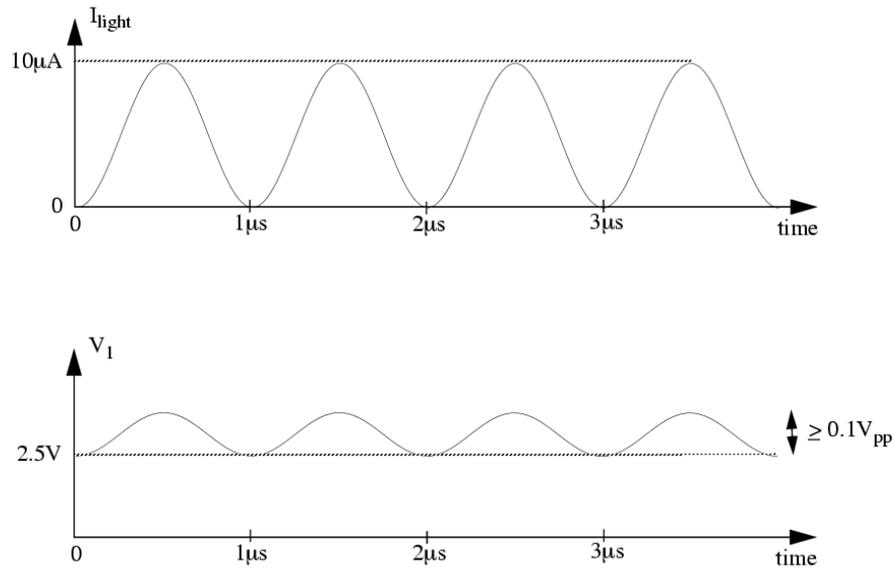

Figure 3: Current due to light shining on the reverse biased diode as a function of time. Also shown is the desired minimum peak-to-peak voltage at node n_1 .
The closed-loop small-signal gain $\frac{V_1}{I_{light}}$ of this first transimpedance amplifier needs to be as constant as possible over the range of I_{light} values shown in Figure 3. You will need to derive an expression for this closed-loop gain $\frac{V_1}{I_{light}}$, where V_1 is the voltage at node n_1 . Notice that since I_{light} is small, V_{diode} (the voltage at node n_{diode}) and V_1 will stay close to the midpoint of inverter I1, and I1 will be held in the high-gain region. Thus the transistors in inverter I1 will stay in the saturation region, and the small signal model can be used over the full range of input current. For the I_{light} shown in Figure 3, V_1 should have a peak-to-peak amplitude of at least $0.1 V_{pp}$ (peak-to-peak voltage), as indicated in Figure 3. For noise immunity, V_1 should be near the middle of the total voltage range. Therefore, the minimum of V_1 should be at 2.5 V, as indicated in Figure 3. To ensure that the photodiode stays in reverse bias, and in an attempt to keep the depletion region width constant, the reverse biased diode voltage V_{diode} should vary by no more than 10 mV peak-to-peak ($10 mV_{pp}$). To understand how V_{diode} varies with the input current and output voltage, you will also need to derive an expression for V_{diode} as a function of I_{light} and V_1 .
- Transient simulation of the transimpedance amplifier stage. Please turn in a printout of the transient simulation of V_1 for the I_{light} given in Figure 3.